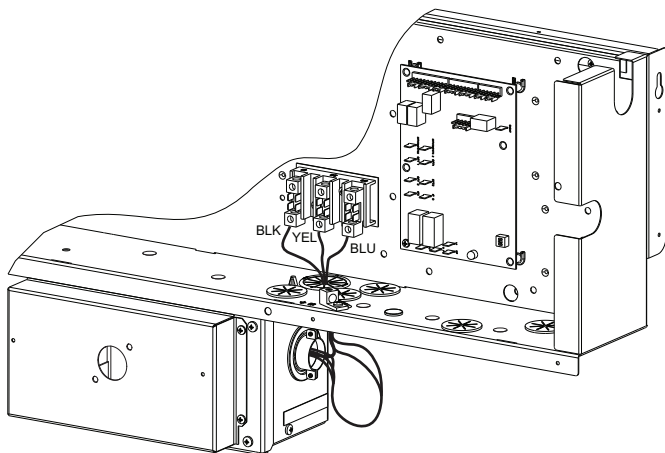

Fig. 26 — NFD Enclosure Location
1. Remove the Control Box access panel. The NFD enclosure is located below the Control Box (see Fig. 26).